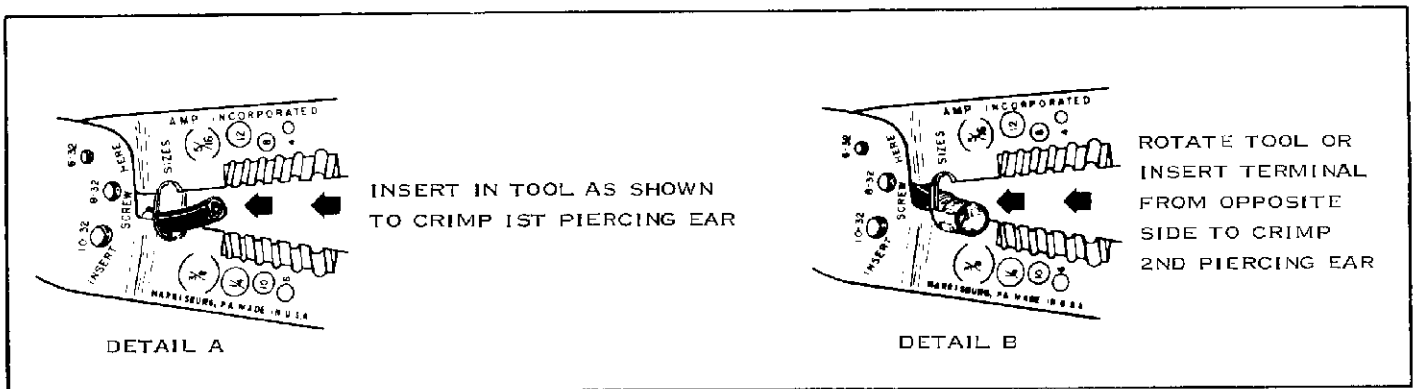

FIG. 3
- (d) Use the A-MP SUPER CHAMP Hand Tool No. 69364 and insert Terminal in Tool as shown in Figure 3, Detail A. Close Tool Handles completely to crimp First Piercing Ear.
- (e) Rotate Tool or insert Terminal from opposite side. See Figure 3, Detail B. Close Tool Handles completely to crimp Second Piercing Ear.